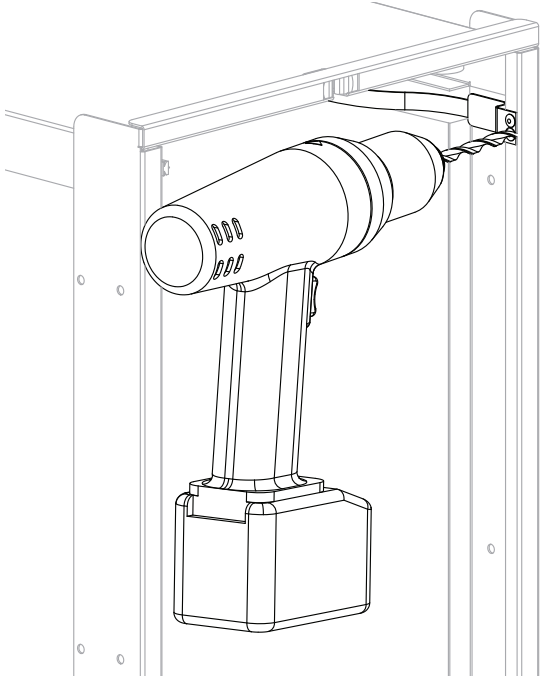

Fig. 3 - Front Screen Ground Spring Disassembly
1. Using a power drill and a 1/4" (7mm) drill bit, remove the head of the rivet. See Fig. 3.